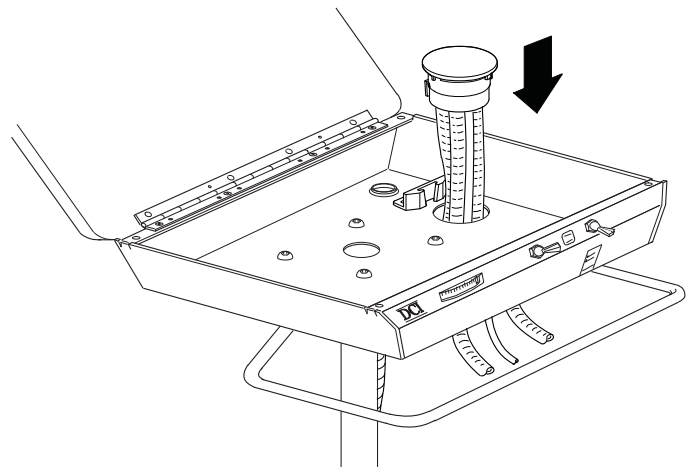

Figure 3
9. To install the vacuum package (see Figure 3):
- a. Route the saliva ejector, the two HVE's, and the drain tube through the 2" diameter hole in the base of the control unit (Figure 3).
- b. Press the bracket on the vacuum canister into the mounting bracket next to the 2" diameter hole. The canister fits over the hole (Figure 3).